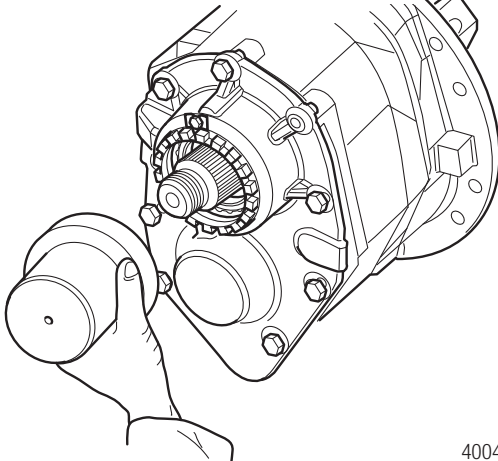

Figure 19
5. Install the forward-rear axle input seal. Hold the sleeve and seal only on the outer diameter. Position the seal into the seal driver and align it with the adjusting ring on the forward-rear axle cover. Do not touch the lips in the inner diameter of the seal. Use a dead-blow hammer and Meritor seal driver 2728T1 to install the seal into the adjusting ring. Figure 19.